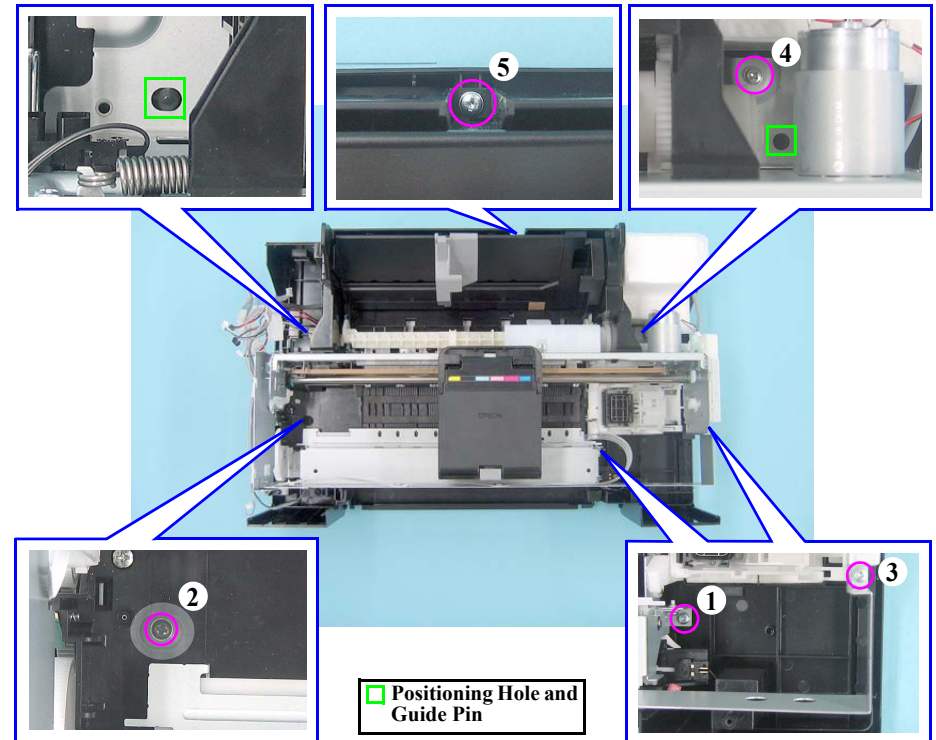

Figure 1-46. Removing the Printer Mechanism (3)
- Match the positioning holes with guide pins (two pairs) shown in Fig.1-46 (p.36).
- Tighten the screws in the order given in Fig.1-46 (p.36).